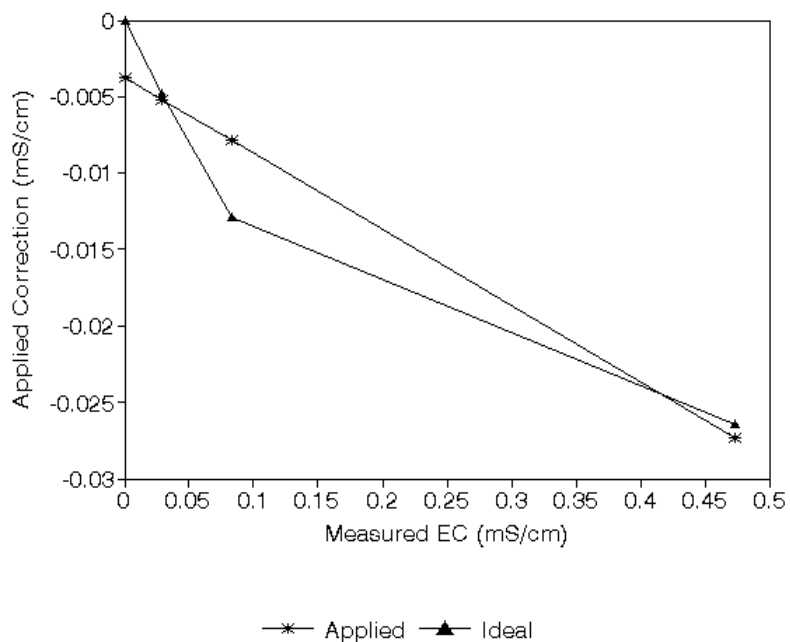

FIGURE 8.1-1. Plot of Ideal and Actual Correction between 0 and 0.44 mS cm-1
**Correction of Ionization Errors:** Figures 8.1-1 and 8.1-2 show the amount of correction applied by the example program to compensate for ionization effects on the measurements. Also shown is an ideal correction. Factors were derived by measuring the standard solutions described in Section 2.2 with values of 0.0234, 0.07, 0.4471, 07, 1.413, 2.070, 3.920, and 7.0 mS cm-1.